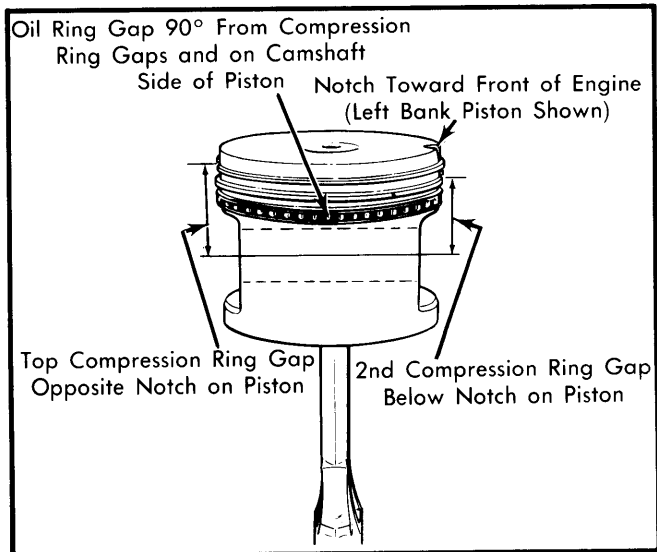

Fig. 6 Piston Ring Positioning
**Installation** — Lightly coat pistons, rings and cylinder walls with engine oil. Position rings as shown in Fig. 6. Make sure the marks on piston rings are toward top of piston. Using piston ring compressor, install piston with valve depression in top of piston turned toward inner side of engine. Small notch cast in top of piston must face the front of engine.